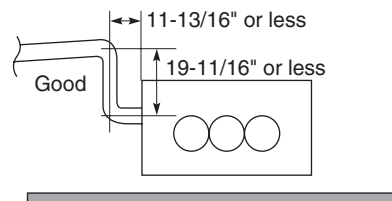

Fig. 3-66
- If it is necessary to increase the height of the drain pipe, the section directly after the connection port can be raised a maximum of 19-11/16". Do not raise it any higher than 19-11/16", as this could result in water leaks. (Fig. 3-66)